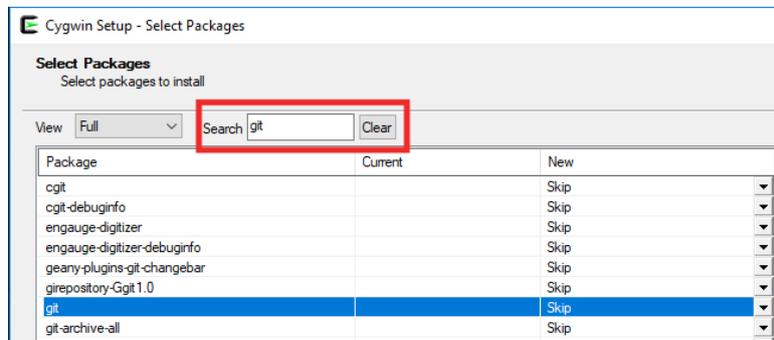

Figure 106. Look for the `git` package
- Look for the `git` package in the **Search** box (Figure 106).